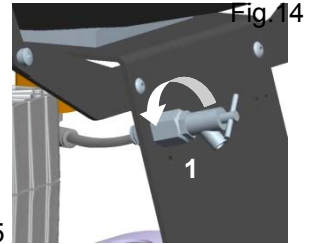

Fig.15
Compressors (Fig.14, Fig.15)
If the compressor will not be used for a prolonged time period, drain any condensate from the air tank. Then turn on the compressor for 10 minutes, keeping the drain valve open (1) (Fig.14, Fig.15). Switch off the compressor by switch (3) at pressure switch (2) (Fig.13), close the drain valve and disconnect the appliance from the mains.
- Release air pressure in the pressure tank by opening the drain valve (1) (Fig.14, Fig.15).